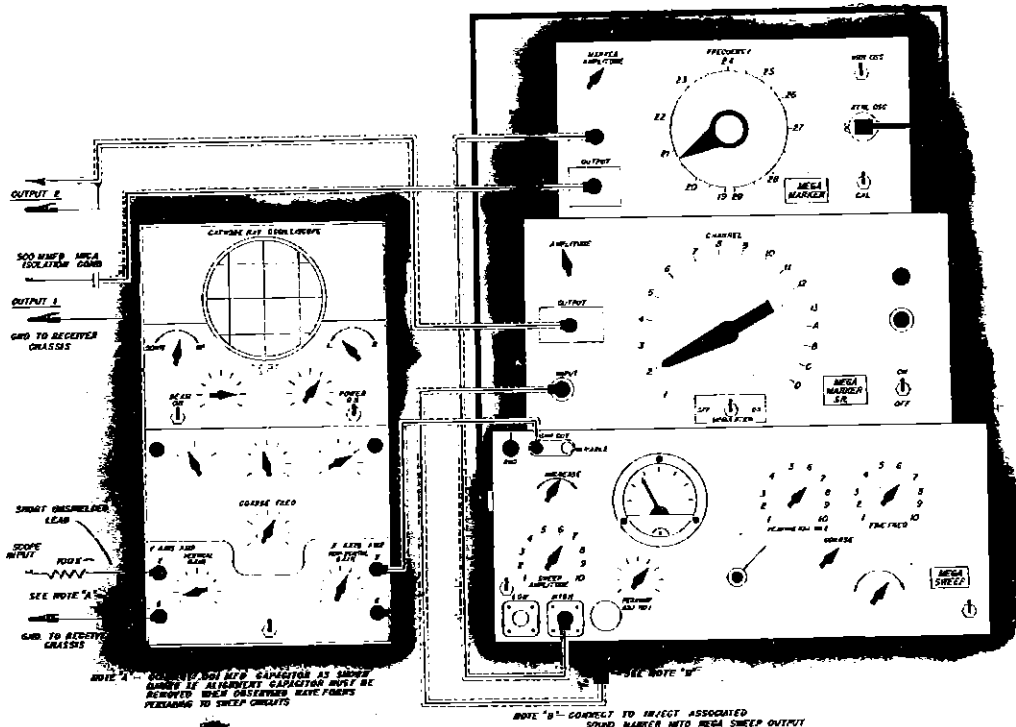
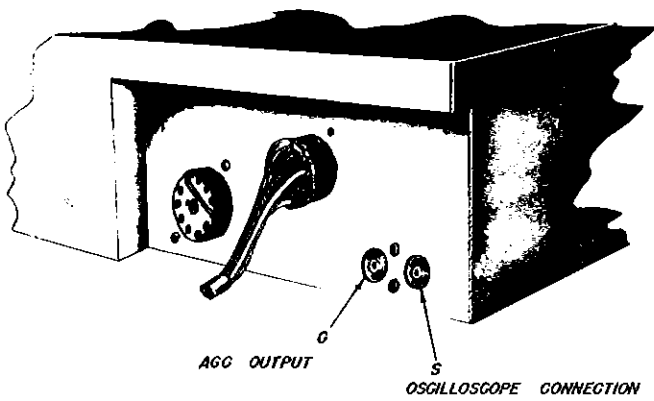
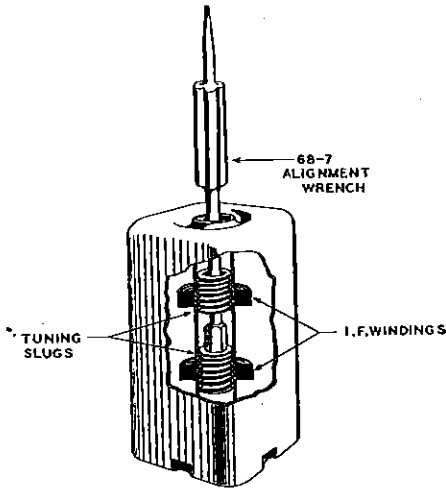

Fig. 29 Test Equipment.
Fig. 37 Test Jacks.
Fig. 40 Sound I. F. Transformer.
Set up the equipment as indicated in fig. 29. Connect output #1 to point F (picture I.F. strip) and chassis. Connect the negative side of a 1.5 volt bias battery to jack "C" and the positive side to chassis and connect the oscilloscope between jack "S" and chassis. See fig. 37 for bias and scope connections.
The 21.3 Mc sound I. F. transformers are of the type indicated in fig. 40. A special adjustment wrench, Part No. 68-7 is available for alignment work. Extreme care must be exercised when aligning these transformers to keep the adjustment slugs in the approximate relationship to the coils as in fig. 40. If care is not exercised, it is possible to advance the top slug beyond and the bottom slug above its associated coil. This would result in an incorrect coefficient of coupling, unstable and improper alignment. Always keep the alignment tool in a vertical plane when adjustments are being made. If this is not done the undesirable situation may arise where both slugs are turned simultaneously. To align the sound I. F. channel, set up the equipment as indicated in fig. 29 and proceed as follows:
The various oscillator circuits are adjusted by connecting output #2 (See fig. 29) to the antenna terminals of the receiver. A vacuum tube voltmeter is connected across the full discriminator load Point "A" (fig. 43) to chassis. If the chassis is in the cabinet, the meter can be connected to the phonevision connector on the sound chassis or the white lead on the volume control (rear section of dual control). After the equipment is set up, proceed as follows:
2. Connect output #1 (See fig.29) through the S-15369 impedance matching transformer to the antenna terminals of the receiver.